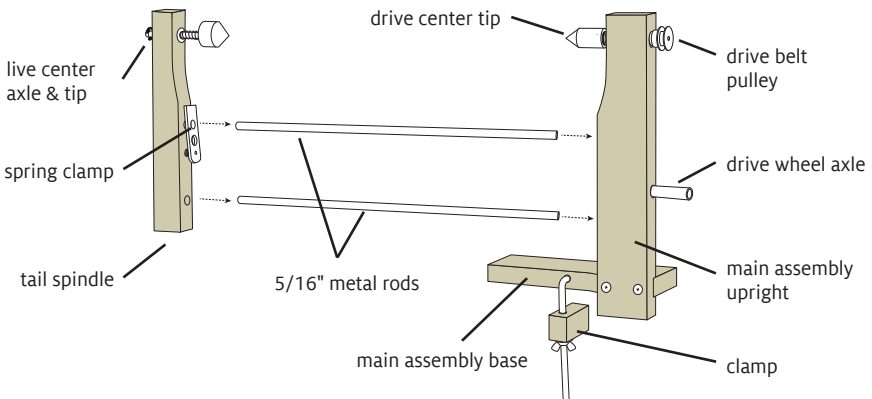

FIGURE 1: INSTALL TAIL SPINDLE (DOUBLE END WINDER ONLY)
1. Place the main assembly on a corner of a sturdy table, with the drive wheel axle pointing toward the floor. Using a hammer and a scrap piece of wood, tap one end of each 5/16" metal rod into the holes on the bobbin winder upright (Figure 1). The rods will measure about 13-1/2" when they are in all the way.
2. Attach the tail spindle: press the spring clamp down and slide the spindle onto the metal rods with the winding tips facing each other (Figure 1).
1. Replace the drive center tip on the main assembly upright (see Figure 1 on page 2): use the hex wrench to loosen the set screw in the tip and pull the tip off the axle. Insert the new drive center tip firmly on the axle and tighten its set screw.
2. Remove the installed live center axle and attached tip from the tail spindle (see Figure 1 on page 2): remove the e-clip at the outer end of the axle. Slide the axle and attached tip out of the tail spindle, removing 3 washers, another e-clip, and the spring.